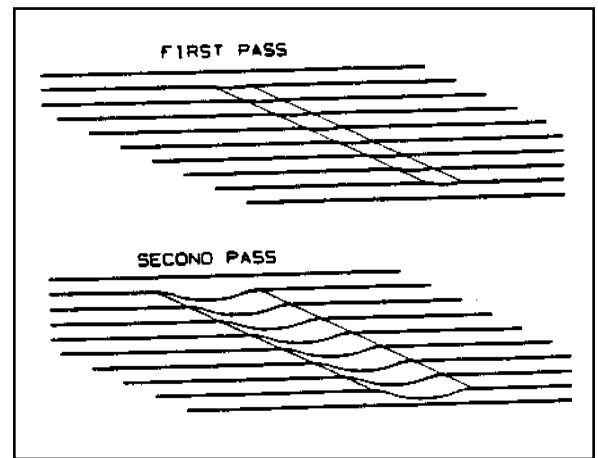

Figure 14
1. **DRUM MARKS**...are caused by the operator lowering the drum to the floor without forward traverse. These marks should be removed by cutting at a 45 degree angle to the mark. Cutting at the mark while maintaining the same path will only increase the mark depth and width. (See figure 14)